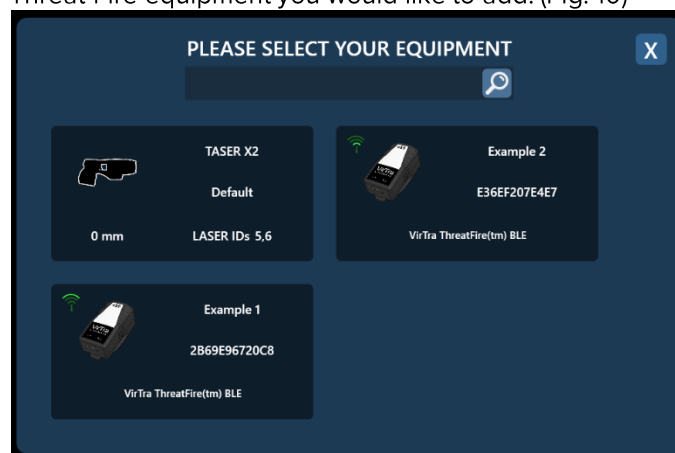

Fig. 10
- c. Locate the V-Threat-Fire equipment you would like to add. (Fig. 10)